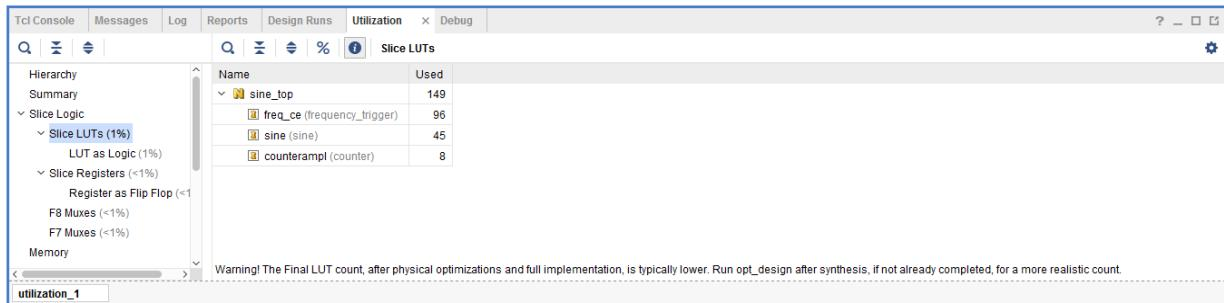

Figure 6.16: Utilization Report
- **Report Utilization:** Generates a graphical version of the Utilization Report, see Figure 6.16.